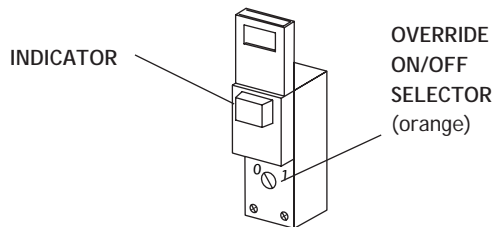

Figure 9. Air Signal Valve
To turn a function ON, locate the override on/off (orange) selector on the air signal valve (see Figure 9). Using the small narrow-tipped screwdriver provided with the unit, *carefully* turn the override on/off selector clockwise a 1/4 turn to the ON (1) position. **Do not** turn the override on/off selector beyond the ON (1) position.
Use minimal force when adjusting the override on/off selector (see Figure 9). Excessive force or turning the override on/off selector too far will permanently damage the air signal valve.
When the manual override is used, the indicator on the air signal valve will not illuminate (see Figure 9). Manual override is a means of turning a Master touch pad function ON. The function will remain ON until the unit has been turned OFF or the air signal valve has been manually turned OFF.